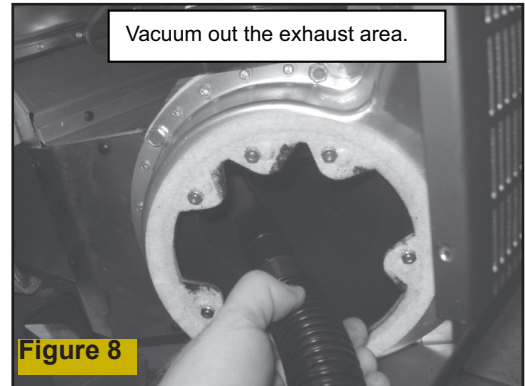

Figure 8
- Vacuum out the exhaust area. **Figure 8.**